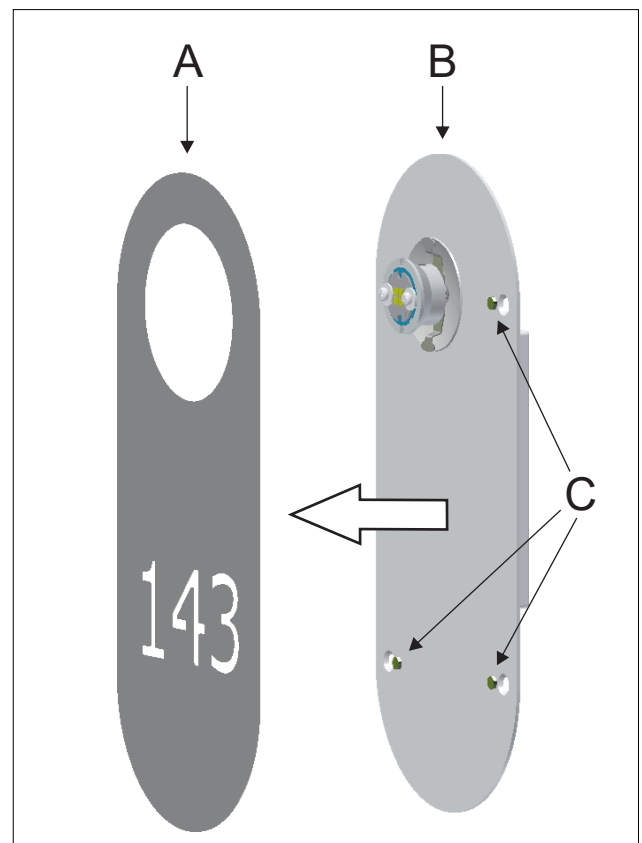

Figure 1
1 - Pull the numbered metal base (A) to separate it from the mounting bracket (B). This base is holding by four magnets (C), there is no danger of breakage but be careful to don't lose them. Figure 1.